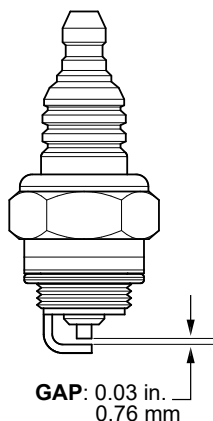

Figure 25. Spark Plug
2. Remove and clean the spark plug (Figure 25). Adjust the spark plug gap to 0.03 inch (0.76 mm). Replace the spark plug if the electrode is burned or worn.